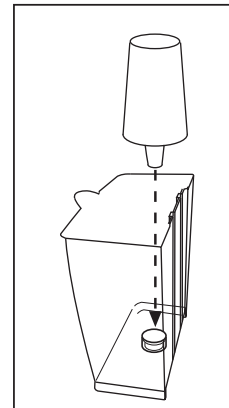

Fig. 19
- Hook the filter into the adapter (**Fig.19**)